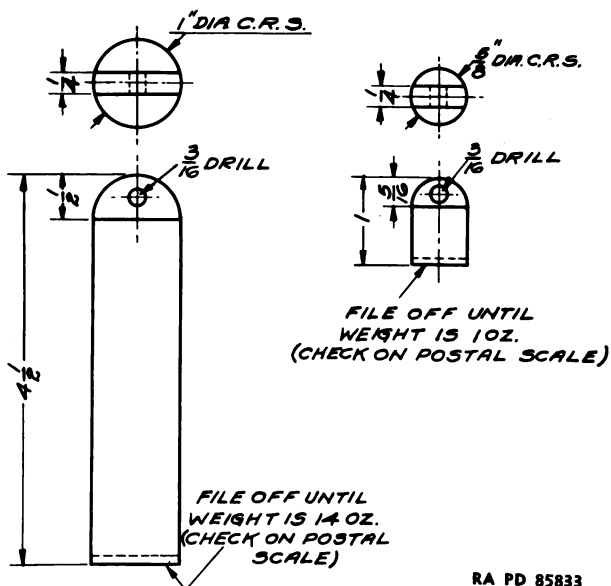

Figure 78 — Suggested Dimensions for Torque Amplifier Testing Weights
d. **Sensitivity.** With motor running and output shaft *free*, a 1-ounce weight suspended by a thread from the input coupling, as shown in figure 76, should start smooth rotation. Allow the weight to unwind from the coupling for at least one turn, in both directions. A 1-ounce weight may be made of any material which will not rust or absorb moisture, and may usually be checked on a postal scale. A suggested design is shown in figure 78.
(2) When the above tools are not available, the simple weights and arm shown in figures 78, 79, and 80 may be made and used. Suspend the 14-ounce weight from the arm between the inner and outer marks. When it is at the $1\frac{3}{16}$ -inch mark, it should be lifted to a